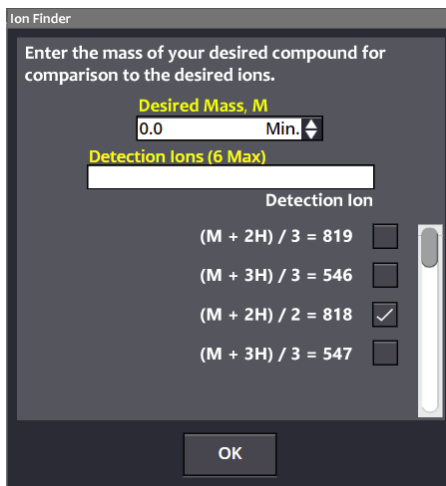

Figure 4-20 The Ion Finder window
3. Select ION FINDER. The ION FINDER window opens to display a list potential adducts and fragments detected in the compound of interest. Due to isotopes, multiple peaks near one another may be found. (For example, 546, 547, 818, and 819. See Figure 4-20.)